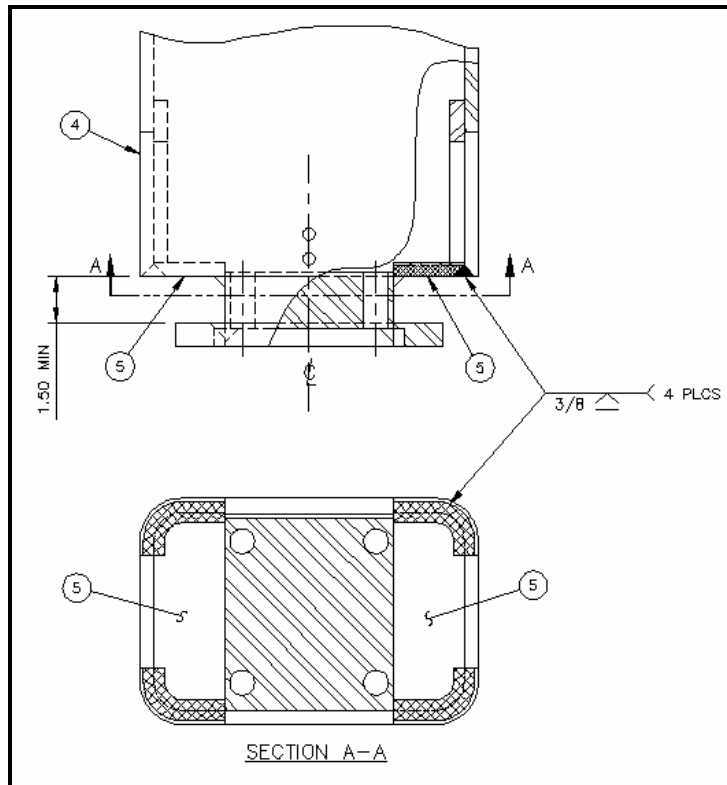

Figure 6: Inner Tube/Strips Weld
Cracks may occur at the lower end of the inner tube where it is welded to the two strips (5). For illustration see figure 6. This type of crack must be repaired as follows:
2. The inner tube end and the plate must be prepped properly with 3/8" bevels as shown in figure 6.
4. Grind the weld flush with the base material to maintain the 1.5" distance between the end of the inner tube and the top of the slide plate as shown in figure 6.